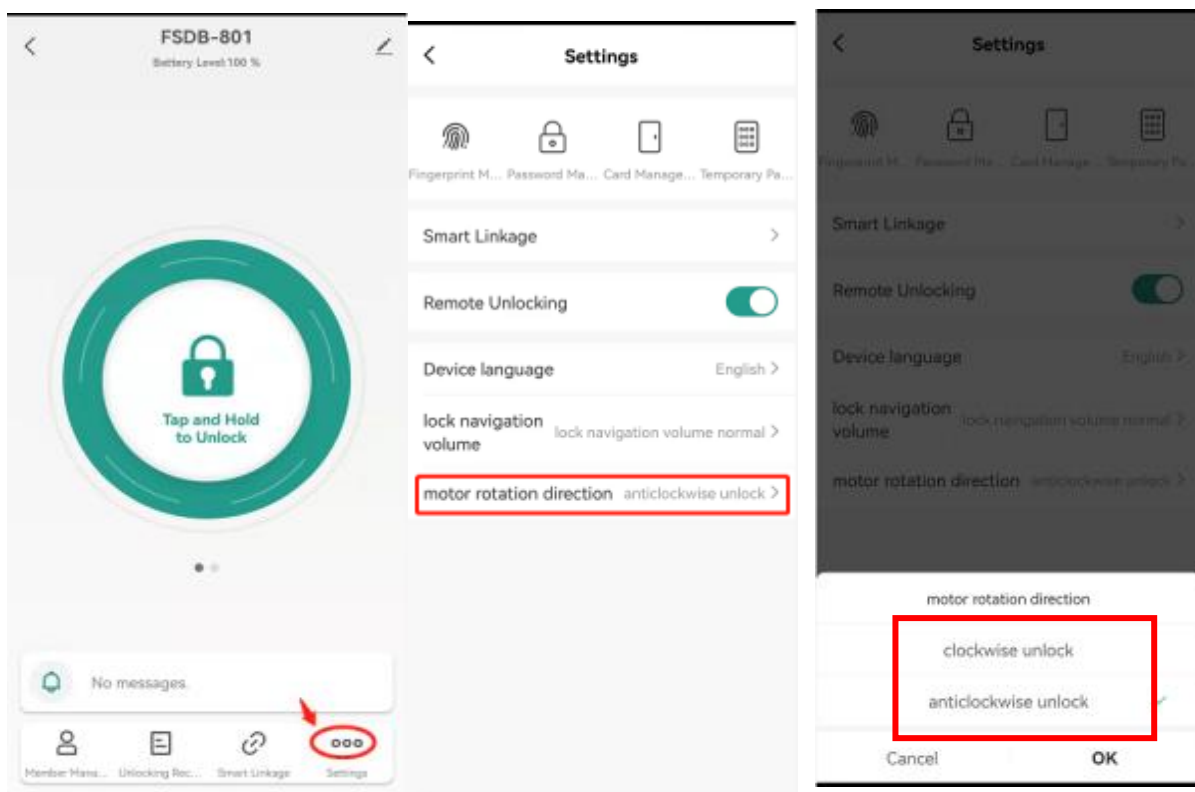

Figure C-7
- g. After the installation, connect the deadbolt to Smartlife APP, choose the correct setting for door direction(setting>motor rotation direction>clockwise unlock/counterclockwise unlock) (see Figure C-7)